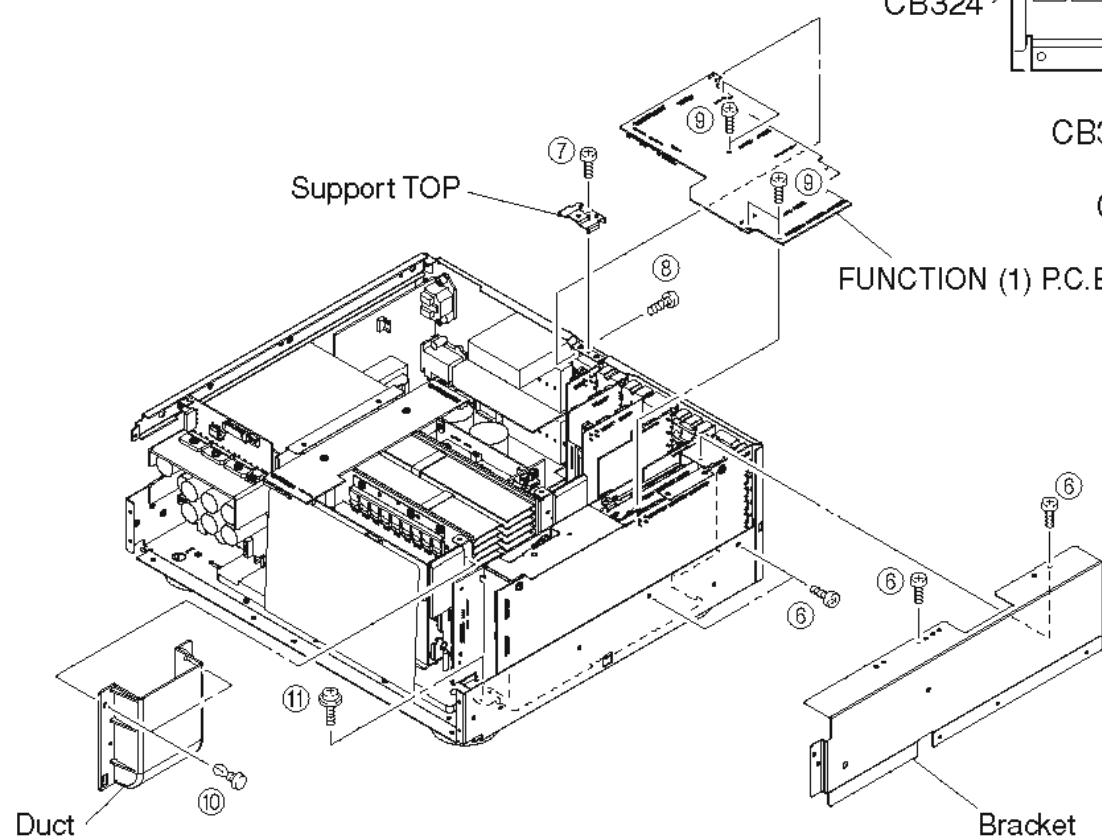

Fig. 4
3. Removal of FUNCTION (1) P.C.B.
- a. Remove 4 screws (⑥) and then remove the Bracket. (Fig. 4)
- b. Remove 1 screw (⑦) and then remove the Support Top. (Fig. 4)
- c. Remove 1 screw (⑧) and 4 screws (⑨). (Fig. 4)
- e. Remove the FUNCTION (1) P.C.B. which is connected directly to the lower P.C.B. with connectors. (Fig. 4)
4. Removal of DSP, FUNCTION (2), INPUT (5), D-VIDEO, A-VIDEO (1), (2) P.C.B.s
- Remove 2 push rivets (10) and then remove the Duct. (Fig. 4)
- Remove 1 screw (11). (Fig. 4)